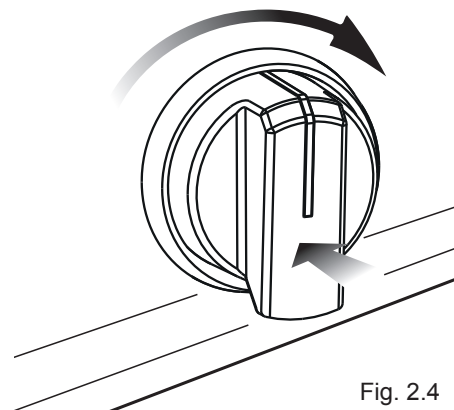

Fig. 2.4
2) Press the oven/broil control knob right down and turn clockwise (fig. 2.4) to the **BROIL** position.